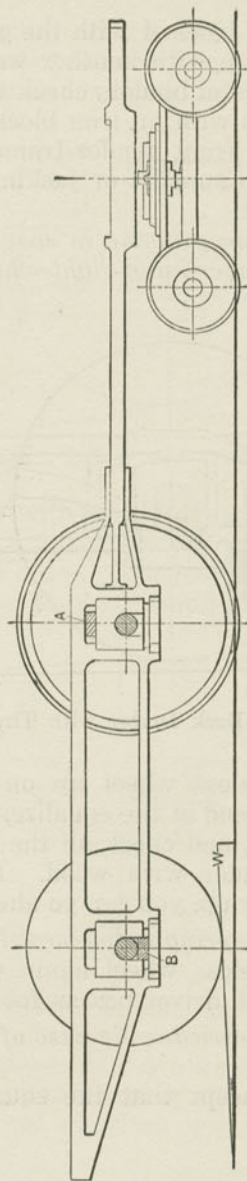

Fig. 381. Back Driver with Tire Removed.
A. Take off rods (only to lighten weight on the front driving axle; keep down water in boiler for the same reason), run up the tireless wheel (see Fig. 381) on a wedge *W*; chock (with an iron block) between front driving box and frame, replace the oil cellar with wood blocking *B*; if necessary disconnect and take out the springs. Pass a chain from the tail beam at the same corner with the tireless wheel through over the drawbar to the opposite tank corner; tighten this chain with wedges.